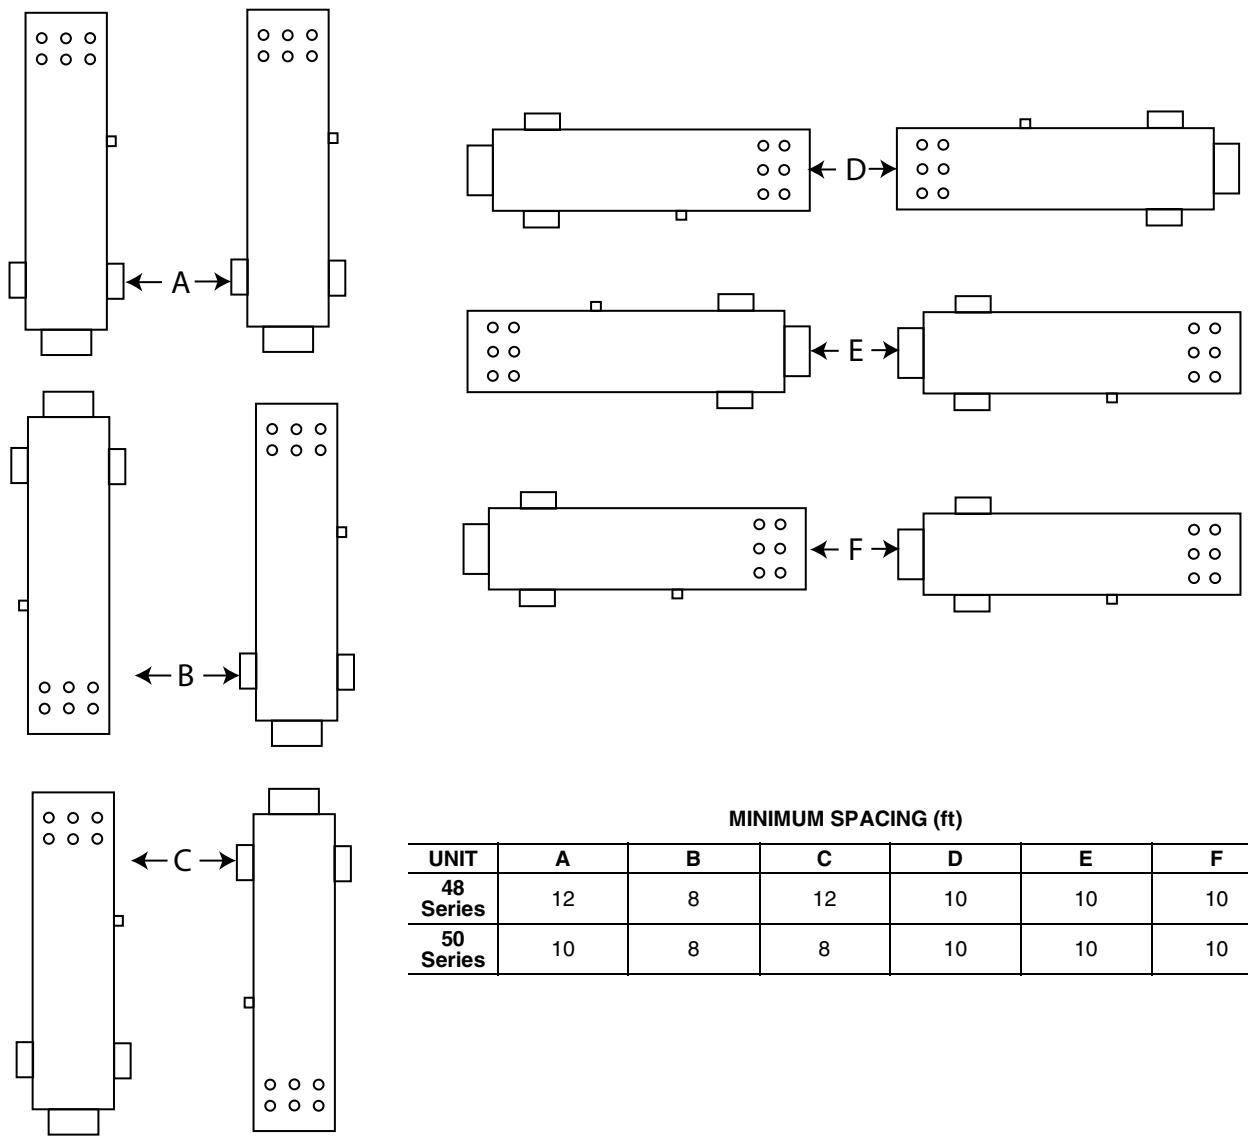

Fig. 2 — Multiple Unit Minimum Separation
Provide clearance around and above unit for airflow, safety, and service access. Do not restrict top (area above condenser fans) in any way. Allow at least 6 ft on all sides for rated performance, code compliance, and service. On units equipped with power exhaust (PE) option, high velocity air is exhausted out the hood. Unit should be positioned with at least 10 ft clearance between the exhaust hood and any obstruction. See Fig. 2 for multiple unit minimum separation. See Tables 1-6 for additional unit and fan data.